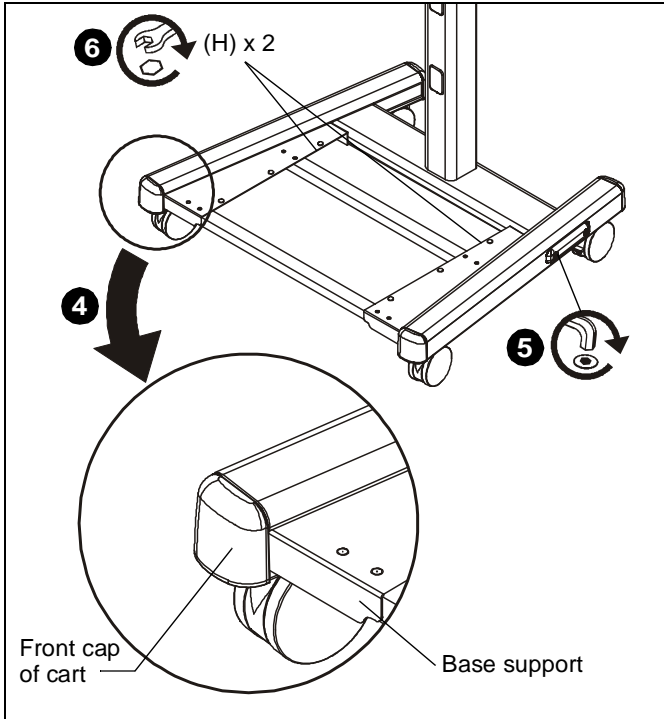

Figure 4
4. Push base support back until it snaps in behind front cap of cart base. (See Figure 4)
5. Tighten button head cap screw on cart side which was loosened in Step 2. (See Figure 4)